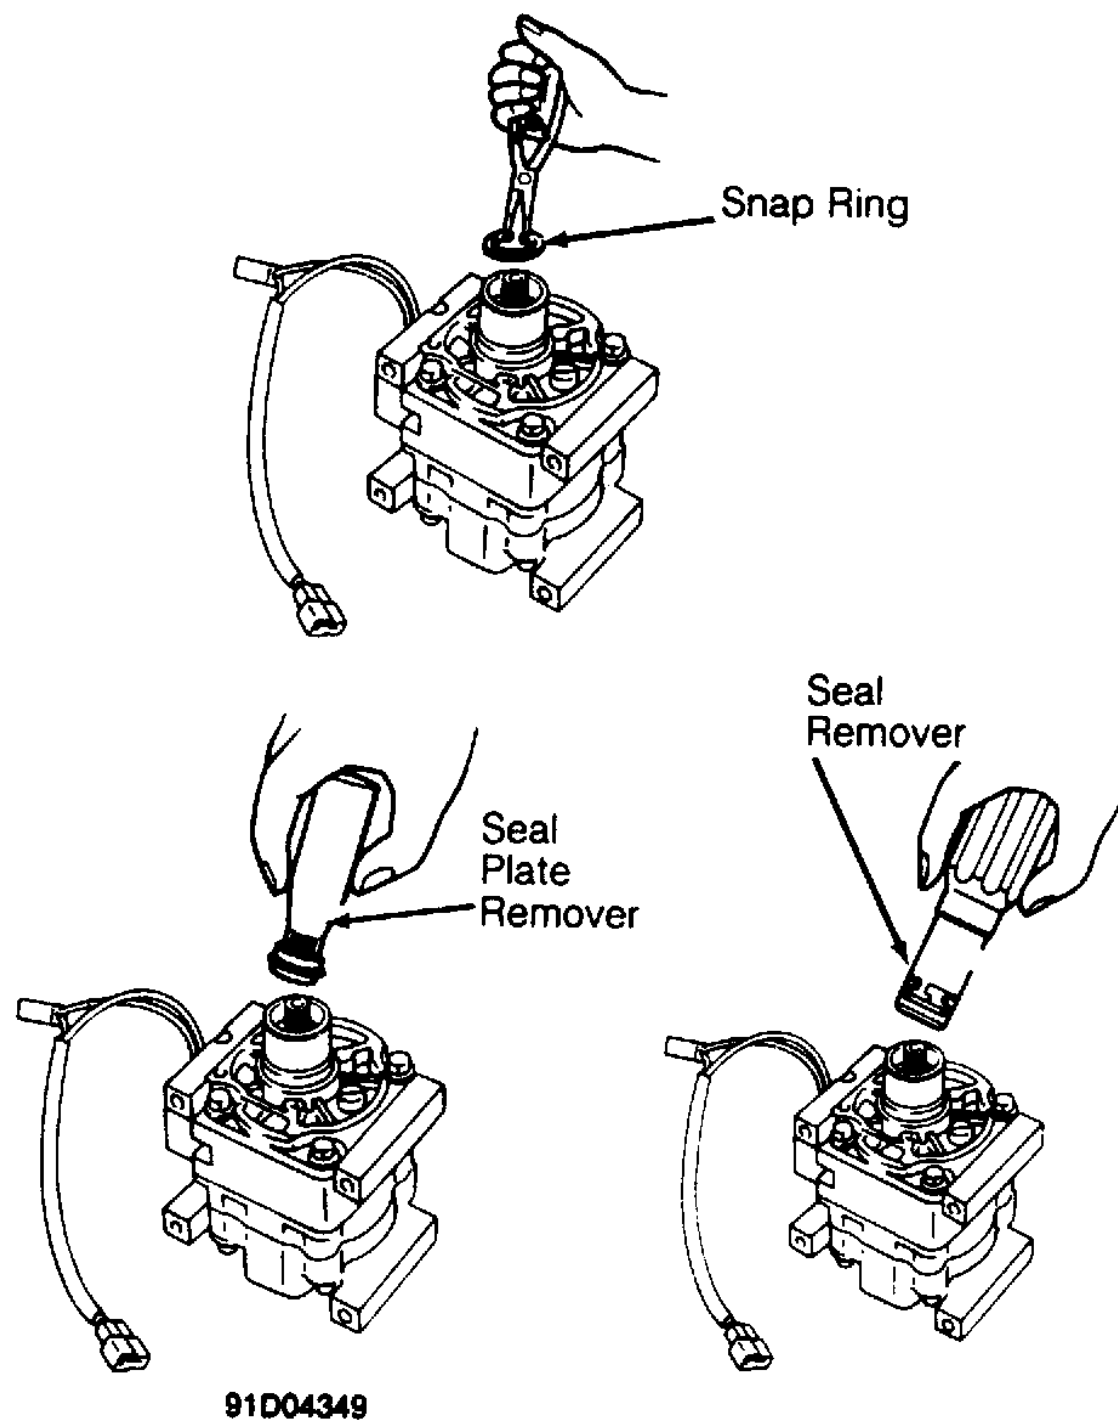

Fig. 16: Removing Rotary Vane Compressor Shaft Seal (Panasonic)
Remove clutch and coil. Remove seal plate snap ring. Using seal plate remover, engage seal and remove seal plate. Using seal remover, engage seal ears and remove seal. See Fig. 16 . To install, reverse removal procedure. Coat new seal plate and seal with clean refrigerant oil before installing. DO NOT touch seal surfaces with fingers.
1. Hold clutch hub stationary and remove shaft nut. Remove clutch plate using puller. Remove external front housing snap ring and internal bearing snap ring. See Fig. 16.